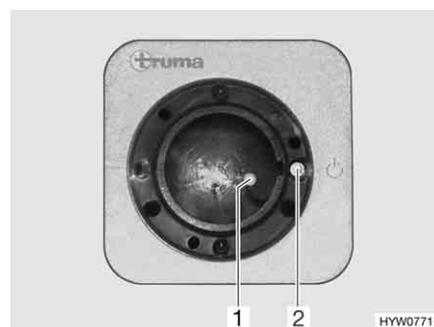
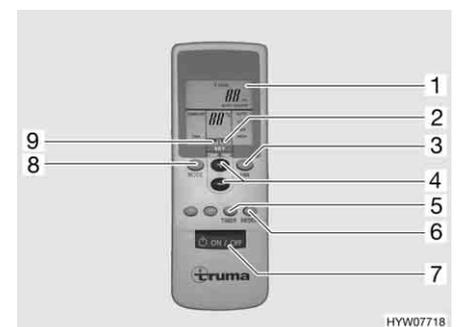

Fig. 138 Receiver
Fig. 139 Remote control
- Switch on the remote control with the switch (Fig. 139,7). The green indicator lamp (Fig. 138,1) indicates cooling mode.
- Set the desired operating mode with the key (Fig. 139,8).
- Set the desired fan output and room temperature with the keys (Fig. 139,3 and 4) if necessary. The arrow (Fig. 139,9) indicates the selected setting mode.
- ▷ An additional key switch (Fig. 138,2) is on the receiver, which can be used to switch the air conditioning unit off or on without remote control. If the air conditioning unit is switched on by means of this key switch, the operating mode set last on the remote control is automatically selected.
- To switch off, press the key (Fig. 139,7) on the remote control again.
- To program, switch on the air conditioning unit with the key (Fig. 139,7) on the remote control.
- Set the desired operating mode and room temperature with the keys (Fig. 139,8, 3 and 4).
- Use the key (Fig. 139,5) to select the desired function (Fig. 139,1):
- Use the keys (Fig. 139,4) to select the desired switching time (1 to 15 hours). The arrow (Fig. 139,2) flashes and indicates the setting mode.
- ▷ The key (Fig. 139,6) is used to send the settings of the remote control repeatedly to the receiver.